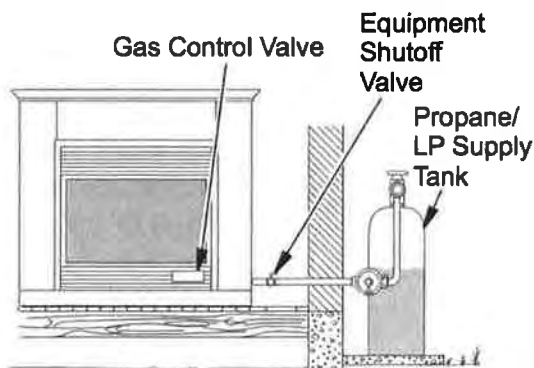

**Fig. 18.1 - Checking Gas Joints
3. Check all joints from gas meter to equipment shutoff valve (See Fig. 18.1 or 18.2). Apply mixture of liquid soap and water to gas joints. If bubbles form, there may be a leak.
4. Check all joints from equipment shutoff valve to control valve (See Fig. 18.1 or 18.2). Apply mixture of liquid soap and water to gas joints. If bubbles form, there may be a leak.